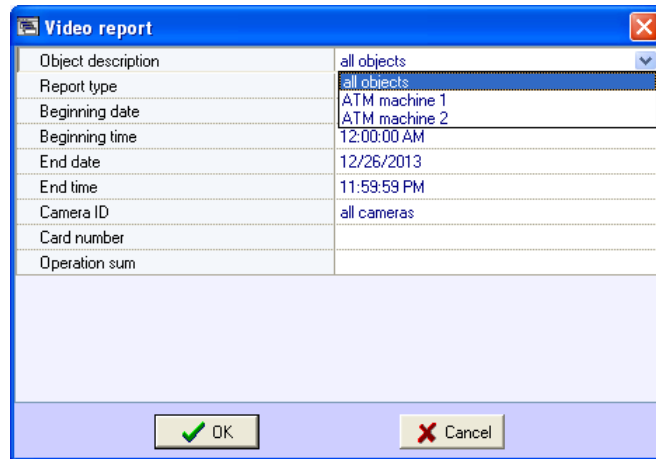

Fig. 7.4—3 Selecting object
3. Report type (Fig. 7.4—4). This setting allows switching between the five available reports: